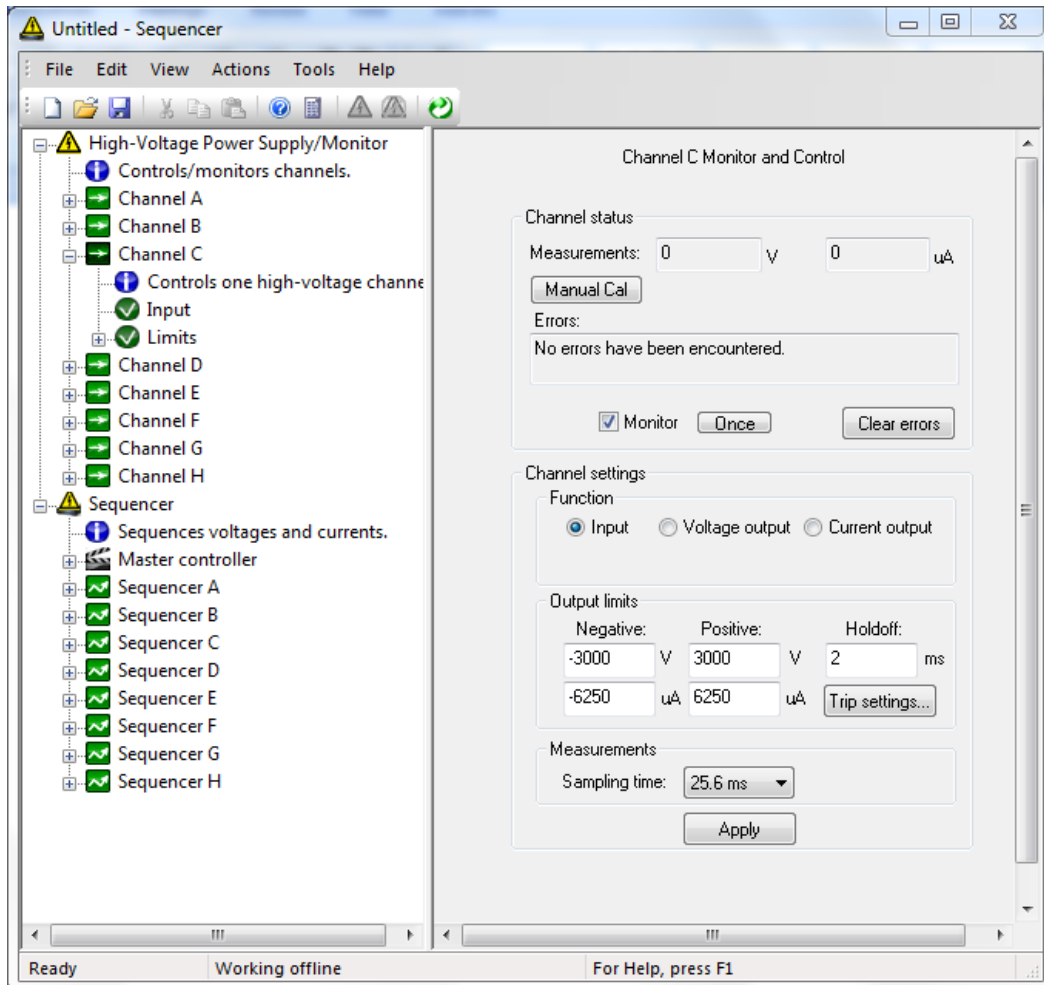

Figure 11. Sequence Main Window, showing navigation in the left pane and channel settings on the right.
*Figure 11* shows the Sequence main window.